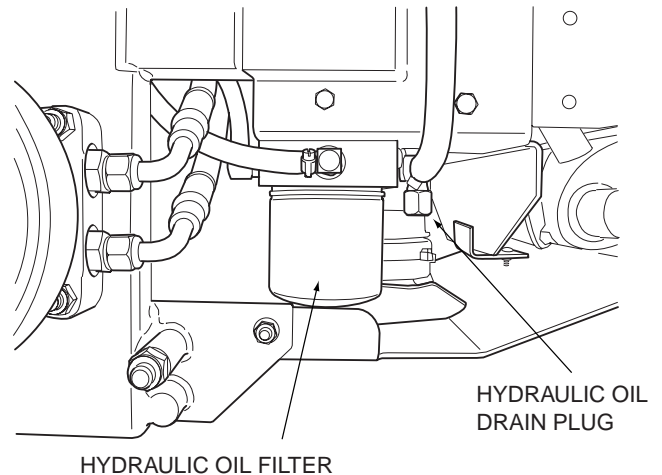

Figure 7-3 Hydraulic Oil Filter and Drain Plug
2. Place a suitable container under the hydraulic oil filter. Tilt the seat forward. Remove the fill cap from the reservoir and the drain plug from the bottom of the drain tee fitting on the front side of the filter base. (See Figure 7-3). Allow the fluid to drain into the container and properly discard it.
1. Remove the oil filter element (Figure 7-3, Page 30) and properly discard it. Fill the new filter with clean SAE 20W50 engine oil and install the filter. Hand tighten only.